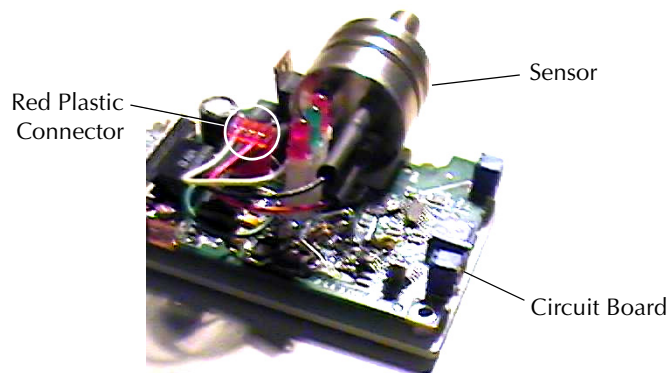

Figure 15 Red Connector and Sensor
5. Locate and unplug the red plastic connector that attaches the cable from the sensor to the circuit board, as shown in Figure 15.
12. Locate the longer of the cover screws and insert it in the lower left position as shown in Figure 15 on page 22 with the vacuum port facing upward.